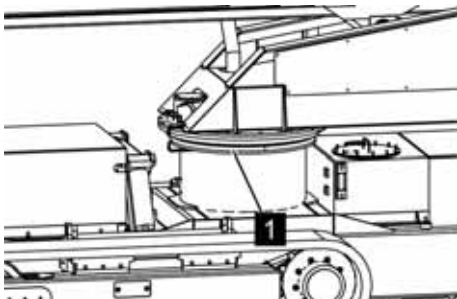

Fig. 135: Lubricating the rotating assembly
2. ➤ Use the grease gun on the grease nipples (Fig. 135/1) of the rotating assembly to insert high-performance lubricant (Item no. 3917/0130).